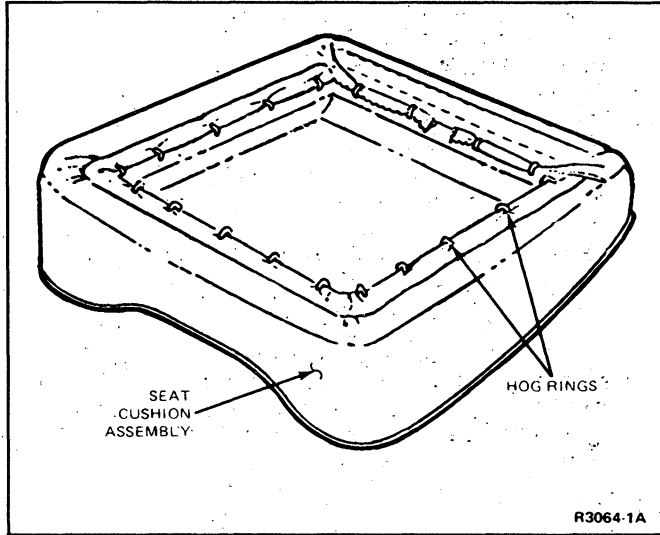

FIG. 11 Seat Cushion Hog Rings
11. Remove the hog rings and cushion trim cover as required to gain access to the three bolts retaining the recliner assembly to the seat cushion frame (Figs. 11 and 12).
3. Install the cushion trim cover to the seat cushion frame using new hog rings (Fig. 11).